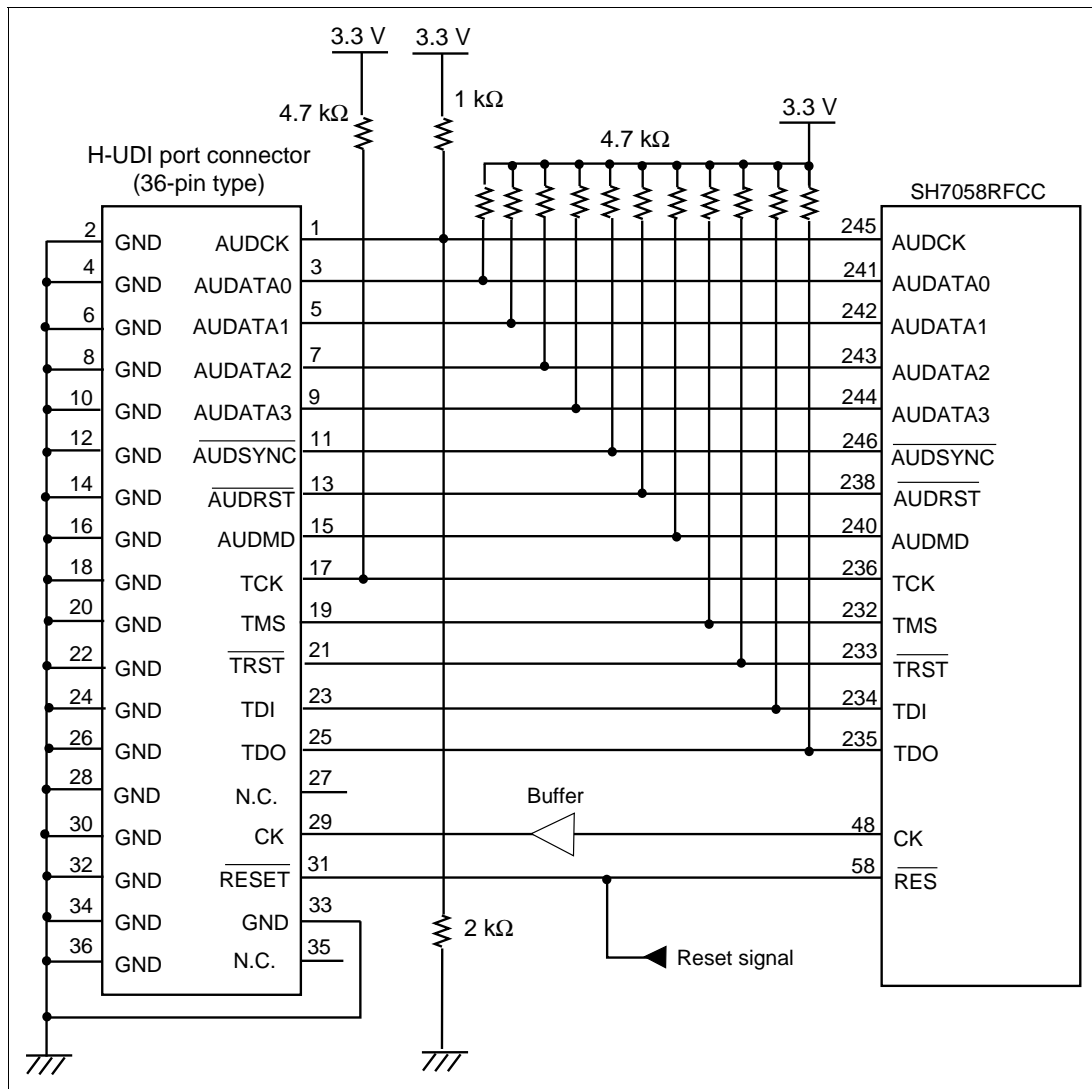

Figure 4.1 Recommended Circuit for Connection between the H-UDI Port Connector and the Device (36-Pin Type)
Figure 4.1 shows a recommended circuit between the H-UDI port connector (36 pins) and the device.
5. When the emulator is used, connect the CK pin between the H-UDI port connector and the SH7058RFCC via a buffer (74LVC125 is recommended) as shown in figure 4.1.
7. The resistance values shown in figure 4.1 are recommended.